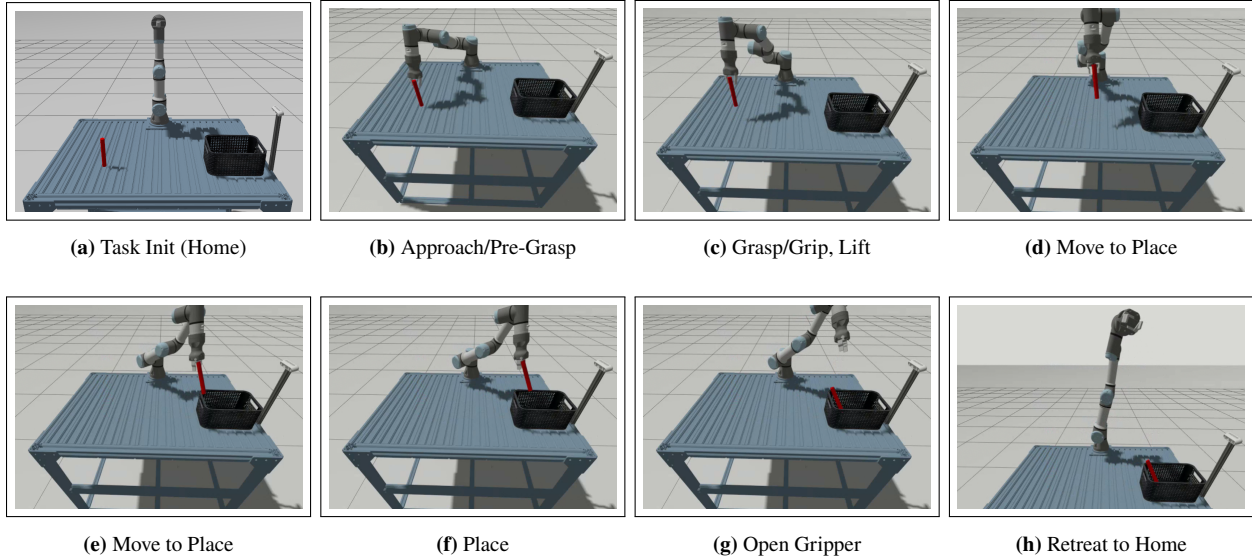

Figure 1: Phases of the object relocation task visualized in simulation.
4. The pick-and-place node `pnp_demo_sim.py` (in the `ur3e_hande_moveit_py` package) drives the autonomous routine, but its inverse-kinematics step has been left for you to complete. You will fill it in, run the node, and verify the full pick-and-place in Exercise 1. When the routine runs correctly, the node prints a per-subtask report ending with the lines below, and the robot moves through the phases in Figure 1.
Verify in Gazebo that the arm completes the full sequence (approach, grasp, lift, place). Submit your completed inverse-kinematics lines and a short video OR a collage of screenshots showing object detection and plane segmentation in RViz and the robot at the approach and place configurations (see Figure 1).